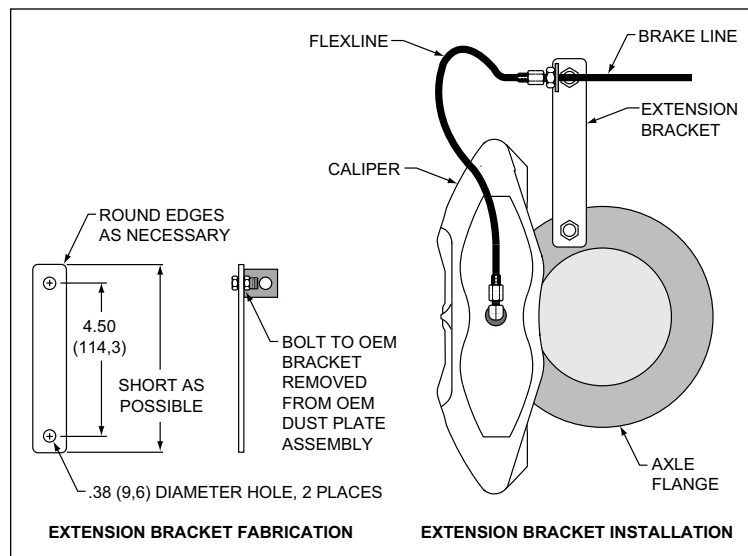

Figure 4. Brake Line Bracket Fabrication / Installation
- NOTE:** OEM rubber brake hoses generally cannot be adapted to Wilwood calipers. The caliper inlet fitting is a 1/8-27 NPT. The preferred method is to use steel adapter fittings at the caliper, either straight, 45 or 90 degree (use PTFE tape on pipe threads of adapter fitting for proper sealing to caliper) and enough steel braided line to allow for full suspension travel and turning radius, lock to lock. **Carefully route lines to prevent contact with moving suspension, brake or wheel components.** Wilwood hose kits are designed for use in many different vehicle applications and it is the installer's responsibility to properly route and ensure adequate clearance and retention for brake hose components. Wilwood offers a hose kit, P/N 220-9855, which includes hoses, fittings, etc., all in one package for this application. Dependent on the application, line kit installation may require a support bracket to be fabricated, then bolted in place to support the original hardline (not included in kit), see Figure 4.